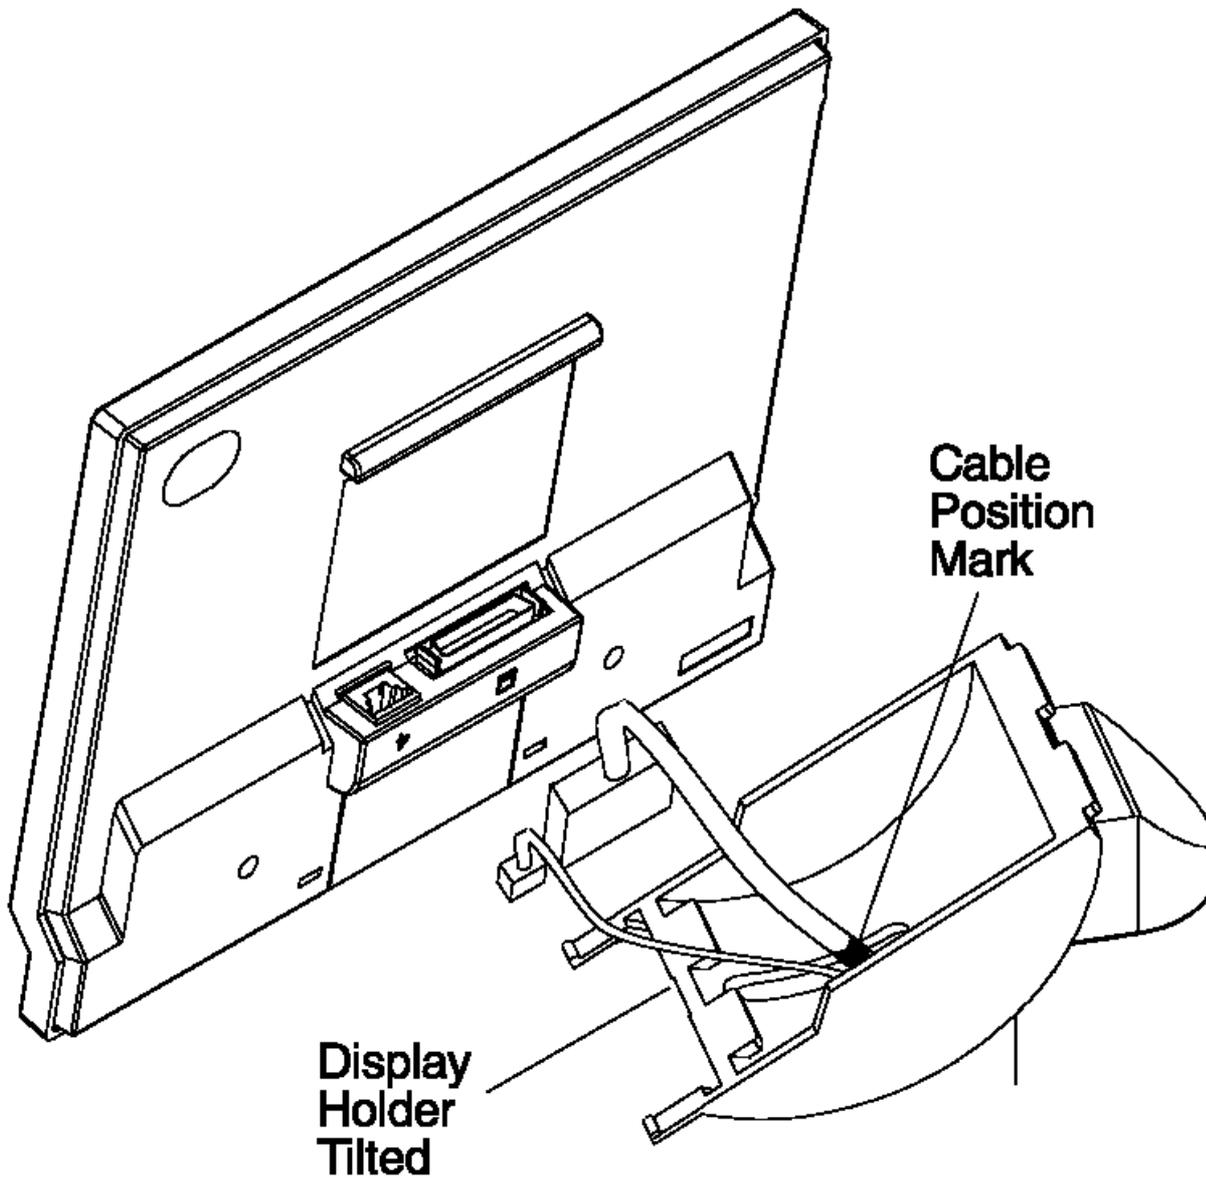

Figure 3-22. Display Holder Tilted Up
8. Tilt the display holder up and remove the cables through the center opening. See Figure 3-22.
7. Tilt the display holder to a position where you can remove the cables through the opening at the center. See Figure 3-22 in topic 3.8.1.